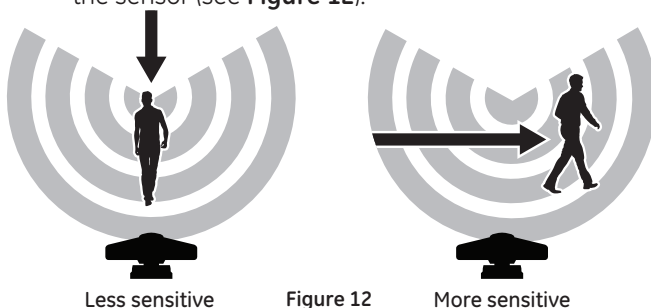

Figure 11
- 1) Adjust the light heads (see **Figure 11**):